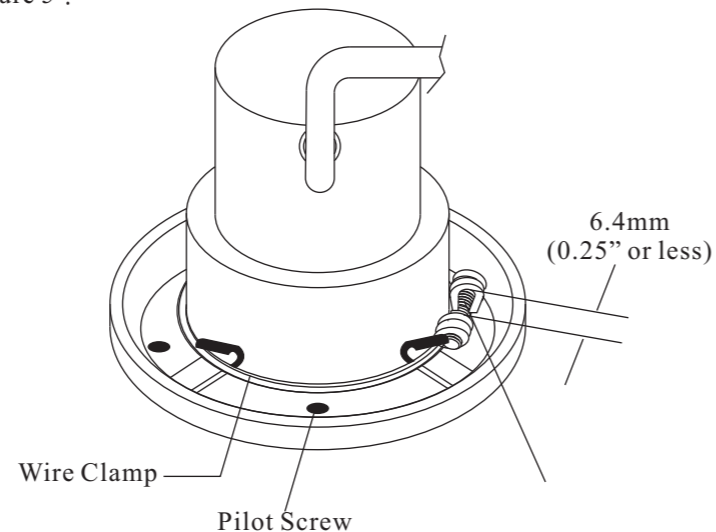

Figure 5 Tighten the bolt until the distance between the ends of the clamp equals 6.4mm (0.25") or less
8. Turn over the underwater light with the lens facing downward, hold the ends of the uni-tension clamp together. Insert the bolt through one end of the bend end and then insert the other end through the other bent end and thread the bolt into the nut. Using a screwdriver tighten the screw and nut until the distance between the ends of the clamp equals 0.25 inches (6.4mm) or less; see Figure 5 .